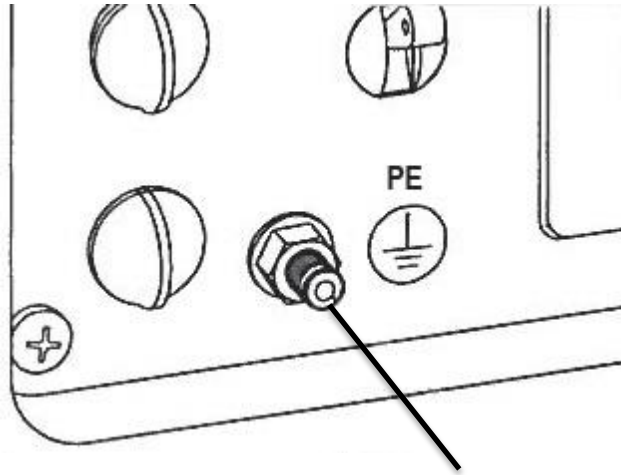

Figure-10 Grounding the Generator
- * This allows the generator to be used as a portable without grounding the frame of the generator. **See Figure-10.**